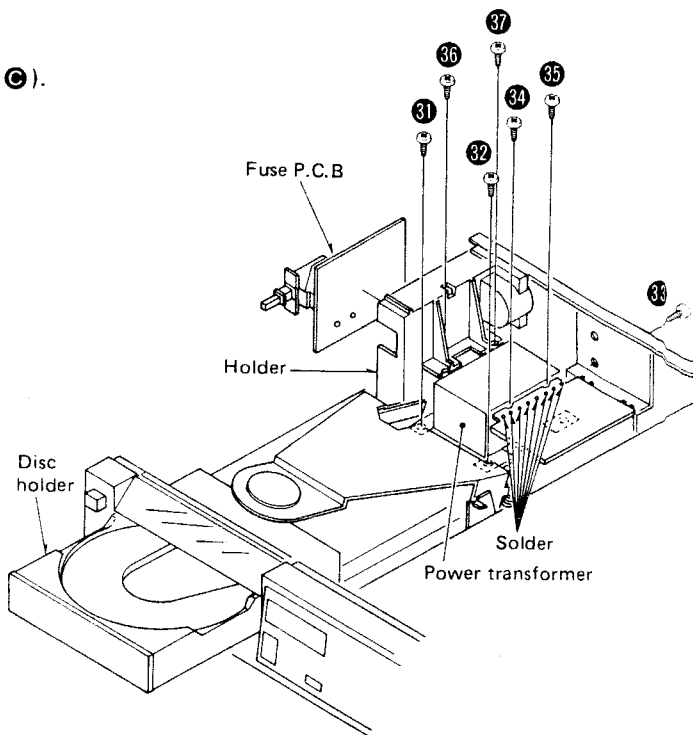

Fig. 10
4. Remove the 2 setscrews [Fig. 10: 31, 32] of power transformer.
5. Remove the radiator setscrew [Fig. 10: 33] and take the power transformer block out of the chassis.
6. Remove the 2 setscrews [Fig. 10: 34, 35] of constant voltage P.C.B.
8. Remove the 2 setscrews [Fig. 10: 36, 37] of fuse P.C.B. holder.